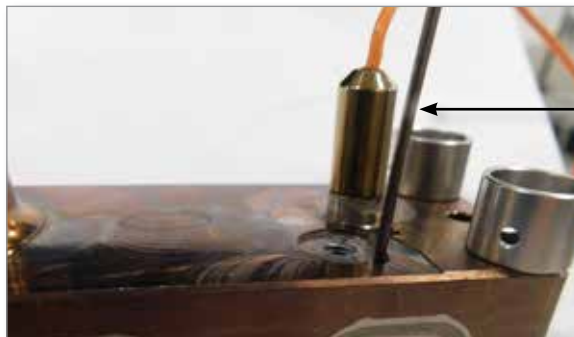

Figure 5-89 Insert thermocouple tip
1. Insert the thermocouple tip into the thermocouple hole. See Figure 5-89.